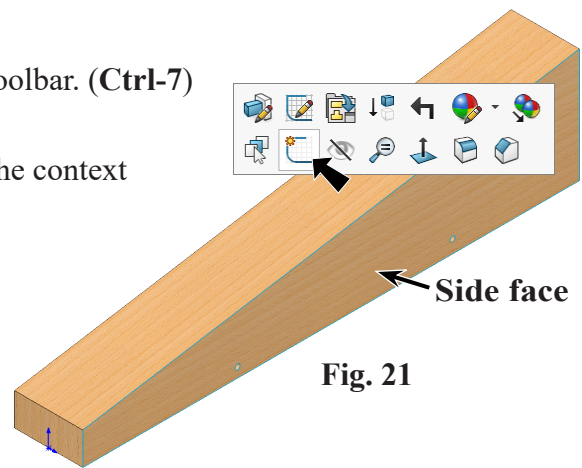

Fig. 21
Step 2. Click the **side face** and click **Sketch**  on the context toolbar, **Fig. 21**.